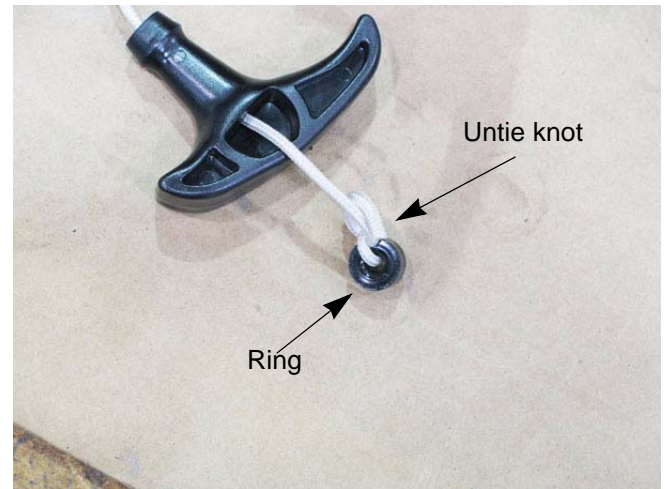

Figure 8.2
3. Untie the knot in the pull handle and remove the pull handle. See Figure 8.2.